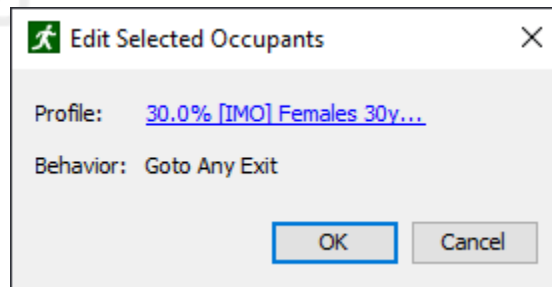

Figure 135. Edit Selected Occupants dialog
1. Select occupants, right-click one of the selected occupants either in the Navigation view or Model view, and then select **Properties** from the right-click menu. To edit a single occupant or group, double-click the occupant or group in the Navigation view. The Edit Selected Occupants dialog will appear as shown in Figure 135.